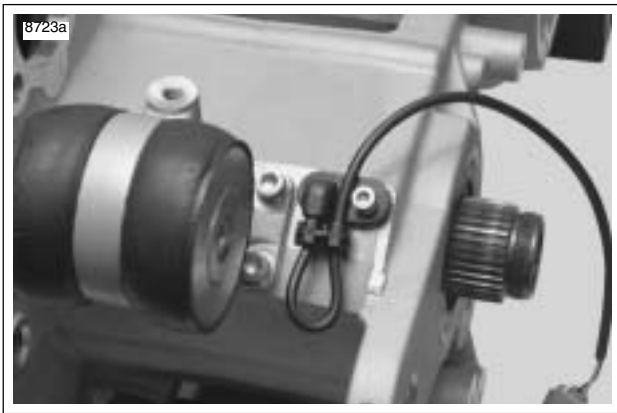

Figure 3-31. Rear Isolator and Mounting Hardware
41. See Figure 3-31. If the crankcases are being separated it will be necessary to remove rear isolator assembly by removing the forward two fasteners first and then the two rear fasteners (re-install with **new** fasteners).